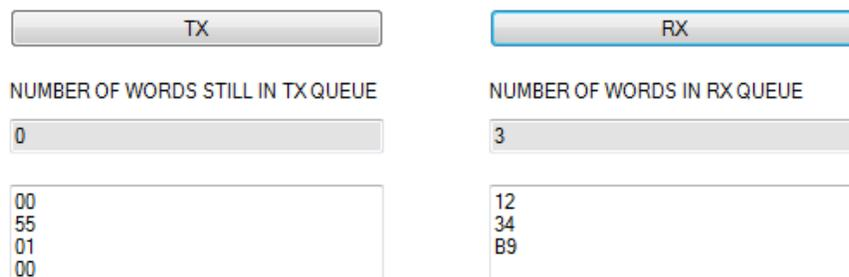

Figure 6. User Submitted Data Packet in TX Box and Valid RX Response
- Step 11. Write the values shown in Figure 6 in the TX box. Each byte must be typed on a separate row.